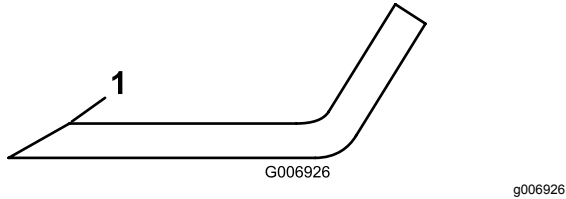

Figure 72
- Inspect the cutting edges of all the blades, sharpen the cutting edges if they are dull or nicked, sharpen only the top of the cutting edge, and maintain the original cutting angle to ensure sharpness (Figure 72).